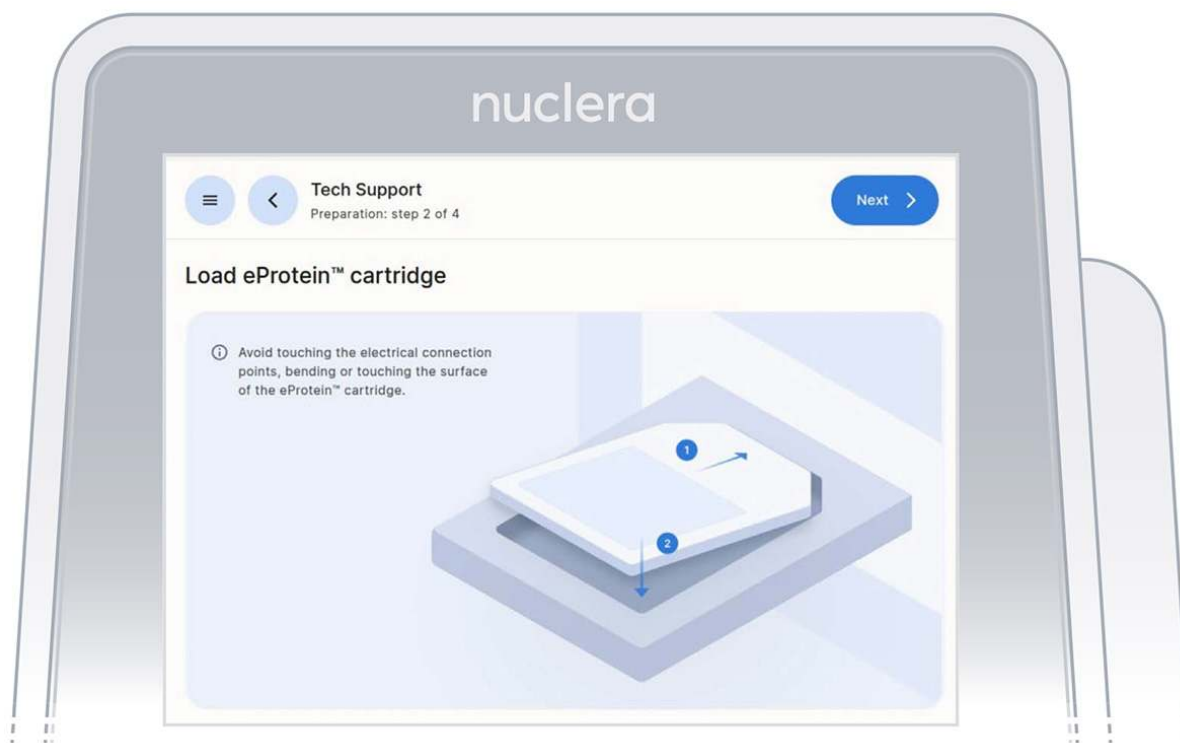

Figure 12: Loading of the cartridge on the eProtein Discovery instrument
7. Unpack and load a cartridge as shown on the screen of the eProtein Discovery instrument, place the cover on the cartridge, avoid touching the electrical connectors, and press the [Next] button (Figure 12).